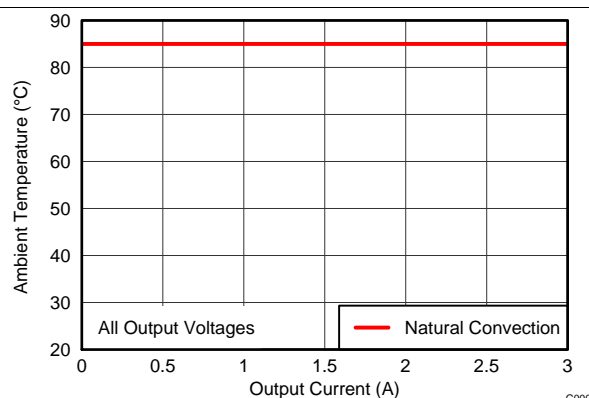

Figure 9. Safe Operating Area
- (2) The temperature derating curves represent the conditions at which internal components are at or below the manufacturer's maximum operating temperatures. Derating limits apply to devices soldered directly to a 100 mm  $\times$  100 mm double-sided PCB with 1 oz. copper. Applies to Figure 9.